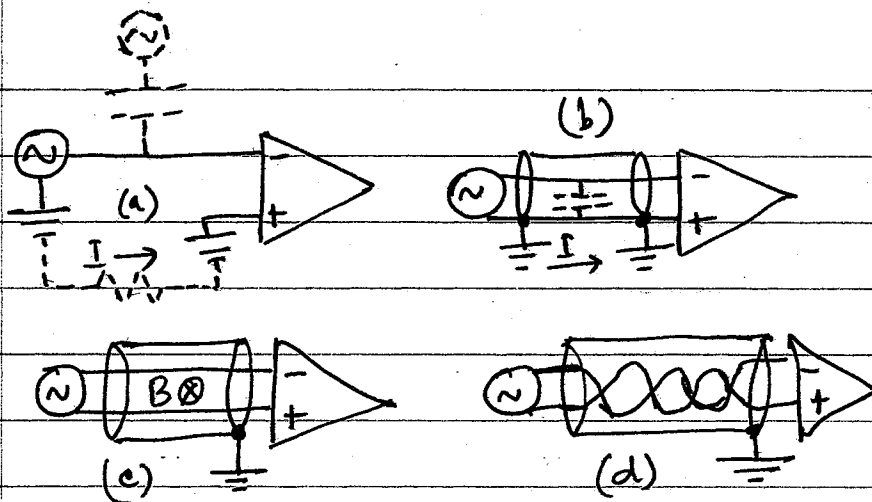

Fig 3: Grounding woes: (a) ground loop and capacitive pickup, (b) cross-talk and improper shield grounding, (c) magnetic pickup, and (d) shielded twisted pair.
- Consider the circuits shown in fig 3. In (a) a source is directly connected to a single-ended amplifier, introducing two serious problems.